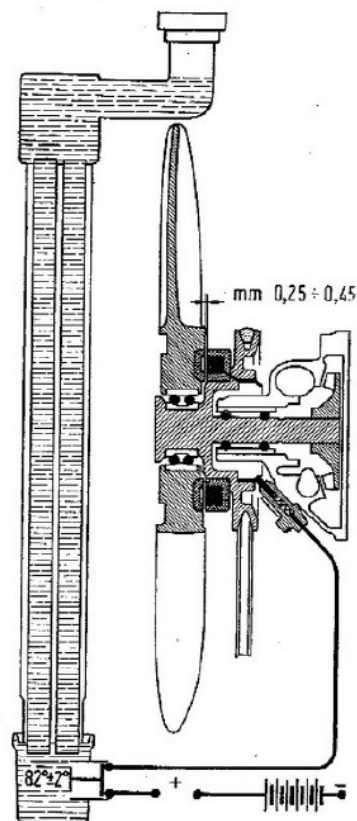

Fig. 60. - Operation diagram of the fan automatic engagement and disengagement device controlled by a thermostatic switch-operated electromagnet.
Electric contact between slip ring (6) and the external circuit is obtained by a carbon brush (17); fan engagement and disengagement are both controlled by a thermostatic switch, located in contact with the water in radiator bottom end (fig. 60).